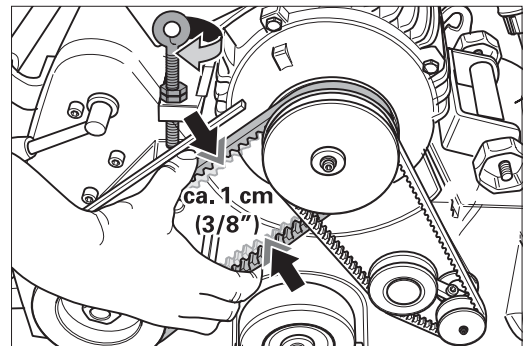

Fig. 53 Belt tension: The slack on the belt should be just under one width of the belt.
- 5 Mount the new V-belt and tension the drive belt using the eye bolt. The slack on the belt should be just under one belt width (Fig. 53).